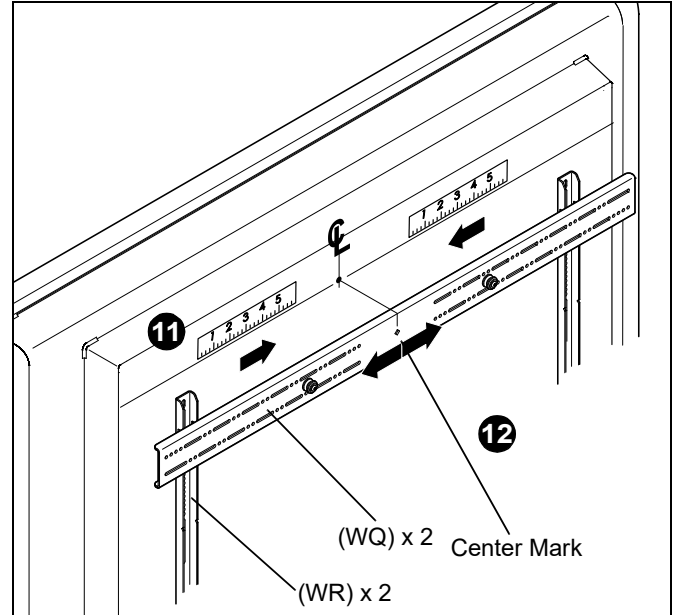
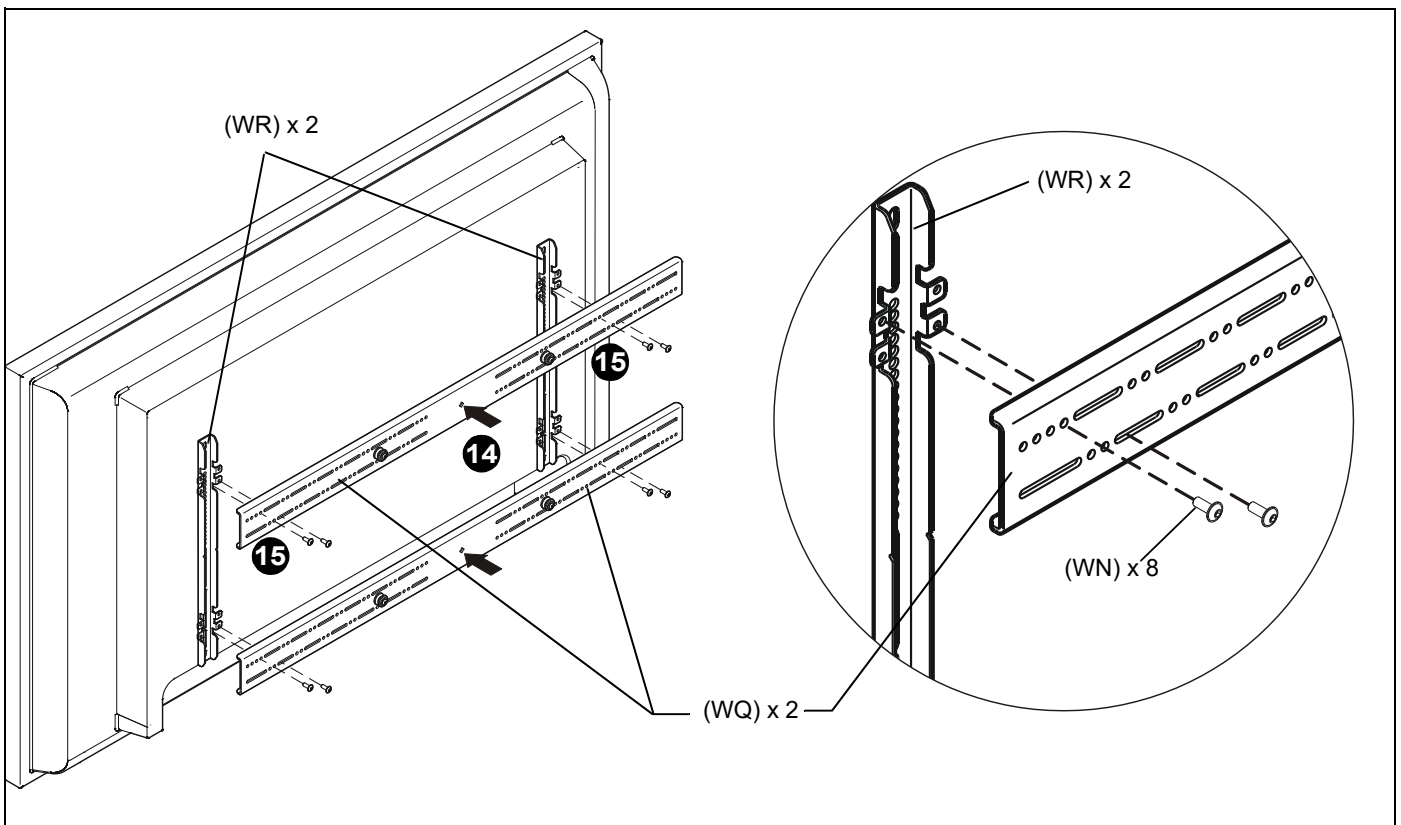

Figure 18
Figure 19
11. Determine and mark the horizontal center position between the Left and Right *TOP* mounting holes in display. (See Figure 18)
12. Determine and mark the horizontal center position between the Left and Right *BOTTOM* mounting holes in display. (See Figure 18)
13. Orient upper horizontal mounting bracket (WQ) so that flanges are facing towards display and resting in recessed area of left and right vertical mounting brackets (WR). (See Figure 18)
14. Adjust Upper horizontal mounting bracket (WQ) position until center diamond in horizontal mounting bracket (WQ) aligns with mark made in Step 11, and mounting holes and slots in horizontal mounting bracket (WQ) are aligned with threaded holes in mounting tabs of left and right vertical mounting brackets (WR). (See Figure 18) and (See Figure 19)
15. Use 1/8" hex key (WP) to secure upper horizontal mounting bracket (WQ) to left and right vertical mounting brackets (WR) using four button head flanged screws (WN). (See Figure 19)
16. Repeat Steps 12 through 15 for lower horizontal mounting bracket (WQ).
align upper and lower brackets by aligning holes or end of slots. (See Figure 19)
IMPORTANT ! : Whenever possible install mounting screws diagonally as shown in detail in Figure 19.